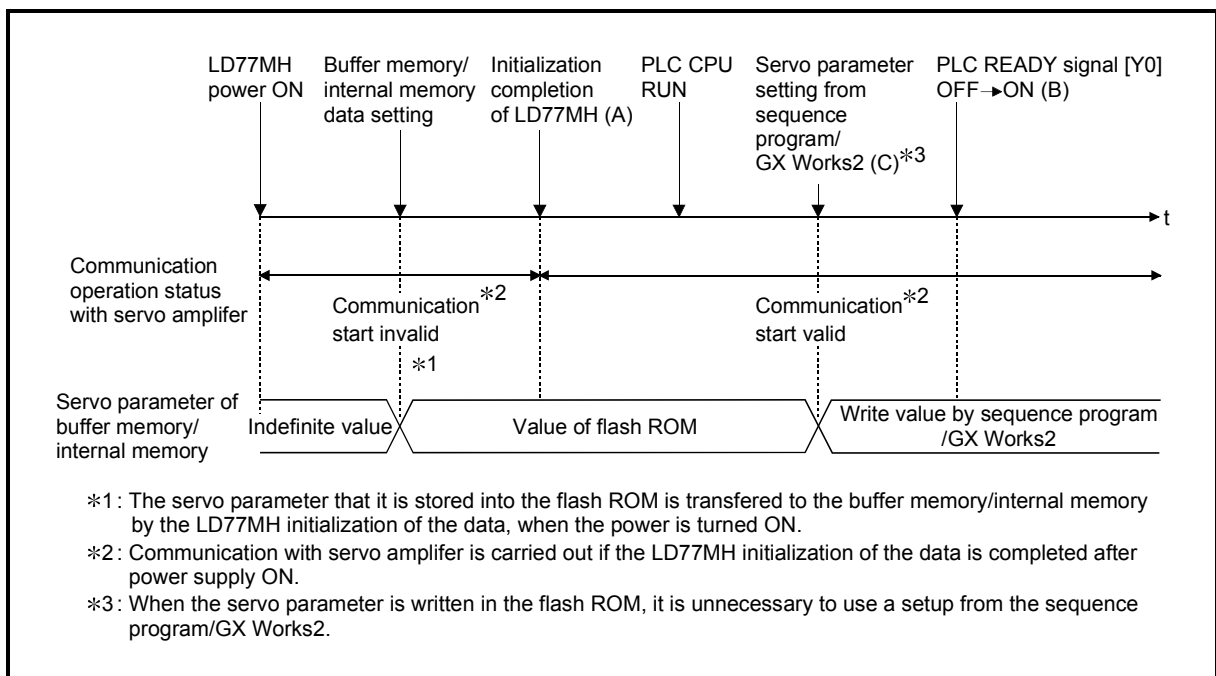

Fig. 7.1 Operation timing in the servo parameter transfer of the buffer memory
Communication start timing to the servo amplifier: Initialization completion (Fig. 7.1 A)
Communication start timing to the servo amplifier: The data written from sequence program before the PLC READY signal [Y0] ON (Fig. 7.1 B).
- Transfer the servo parameter : The data written from sequence program/ GX Works2 before the PLC READY signal [Y0] ON (Fig. 7.1 C).
- (2) Servo parameter transfers when servo amplifier had started after the PLC READY signal [Y0] is turned OFF to ON (Fig. 7.1 B)